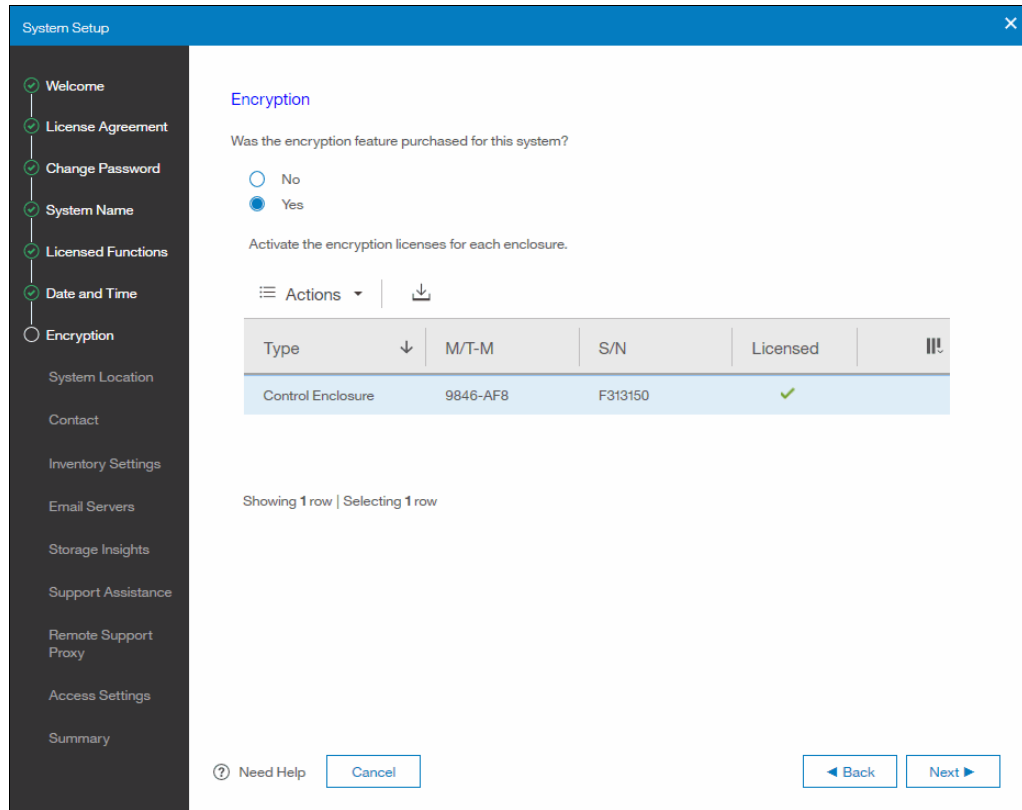

Figure 6-93 Encryption screen showing feature licensed
5. After the activation completes successfully, the Encryption screen is updated to indicate that the encryption feature is licensed (Figure 6-93).